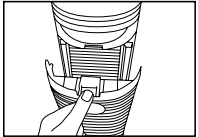

Fig. 10
6. Place the tabs at the bottom of the grill cover into the base of the unit. Gently push the grill cover back into place until you hear a click sound indicating that the grill cover is firmly latched. Fig. 10